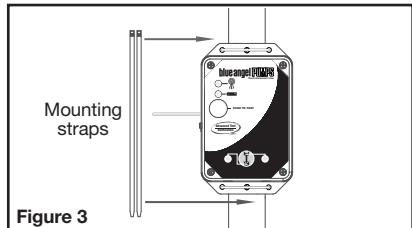

Figure 3
- a. Mount the Advanced Text Notification device to the sump pump discharge pipe a minimum of 4 ft. above the sump cover using (2) of the mounting straps included. (Figure 3) The Advanced Text Notification device can also be mounted to an interior wall. Mounting to an exterior wall, nearer to dirt or earth ground, can reduce cellular signal.